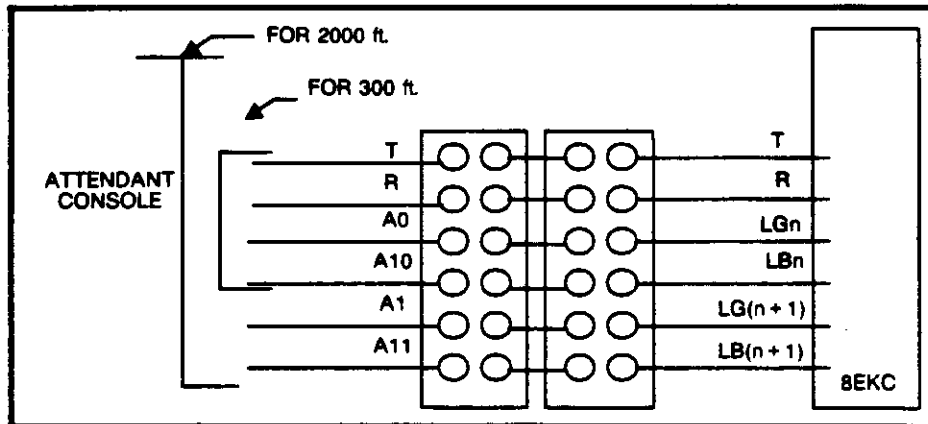

Figure 4.10 Attendant Console Cross Connections
- (b) The Attendant Console can be installed with four-wire 24 AWG cable up to 300 feet from the equipment cabinet using one port on the 8EKC card. If more distance is required, an additional wire pair using an additional card port for power must be used with a six-wire 24AWG cable for a maximum distance of 2000 feet. See Figure 4.10 for Attendant Console cross connections to the CDF.